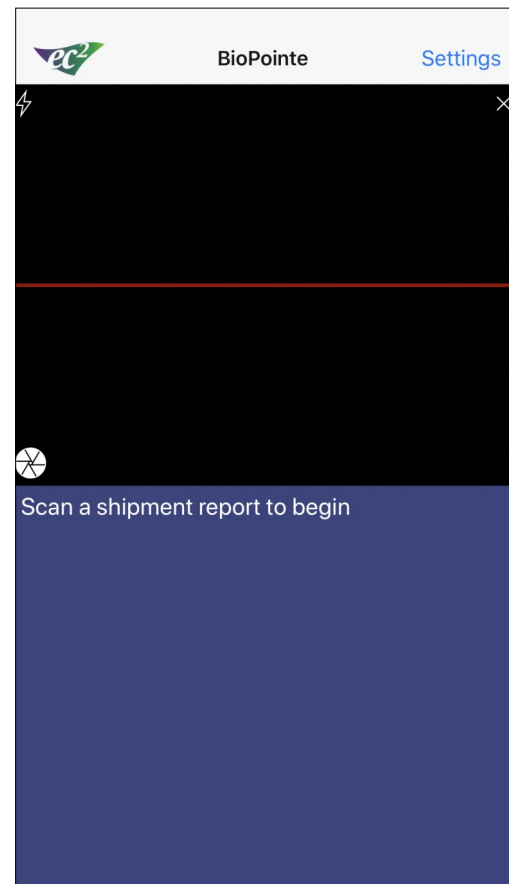

Fig 2
- c. Scan Shipment to Start. See Fig 2